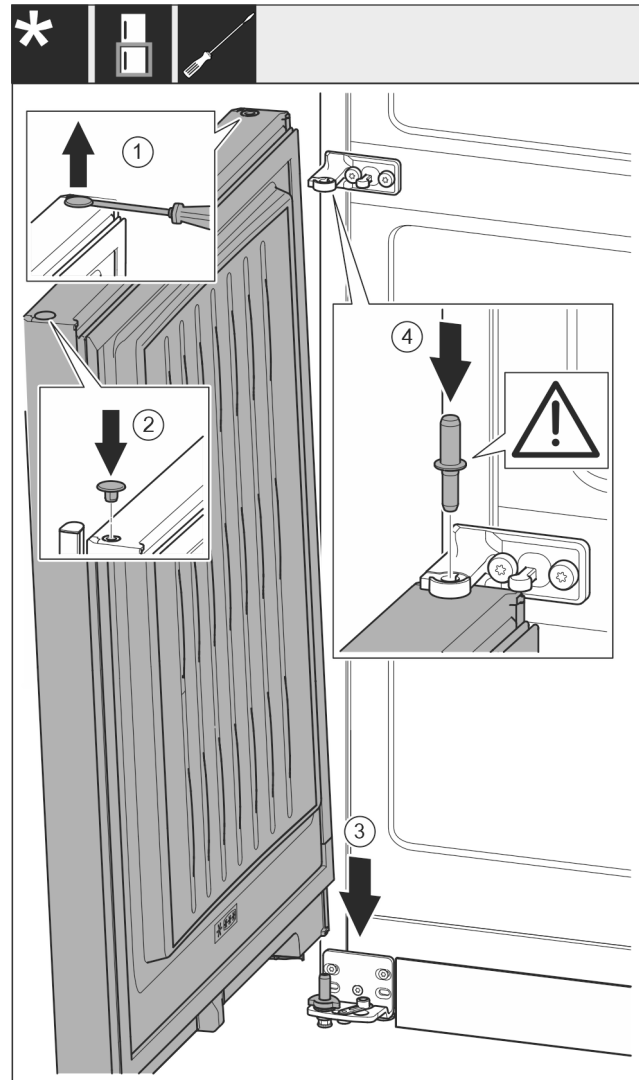

Fig. 20
- Carefully lift up the plugs with a slotted screwdriver and pull them out. Fig. 20 (1)
- Insert the plugs again on the other side of the door. Fig. 20 (2)
- Position the door from above onto the lower bearing pins. Fig. 20 (3)
- Insert the center bearing pin through the center bearing bracket into the bottom door. Make sure that the latching lug is pointing to the rear. Fig. 20 (4)